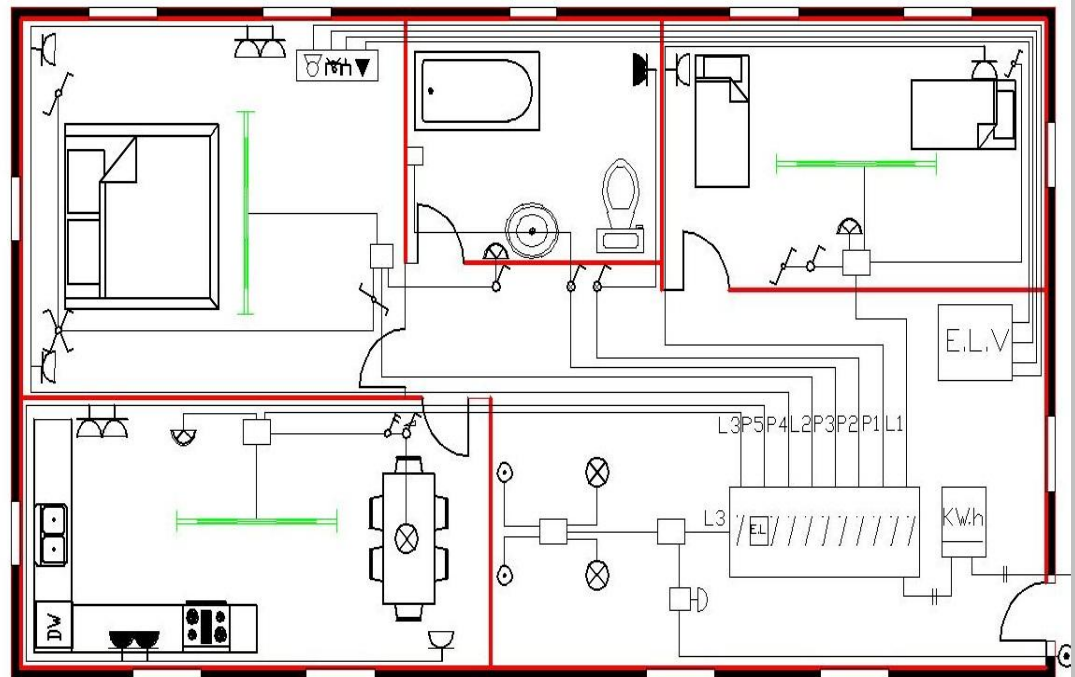

**Figure 8.1:** A photo of conduits, installations, and wiring in a symbolic flat consisting of a living room, a bedroom, a master bedroom, a bathroom and a kitchen
In this part, the kWh meter, the Distribution Board (DB), main MCB and EL (RCD), and MCBs in a symbolic flat, shown in Figure 8.1, will be assembled. Also, extra low voltage components will be installed. The conduits marked with green paint are designed for lighting wiring, conduits marked with red paint are designed for power wiring, and conduits marked with blue paint are designed for Extra low voltage wiring. The overall electrical plan is shown in Figure 8.2.